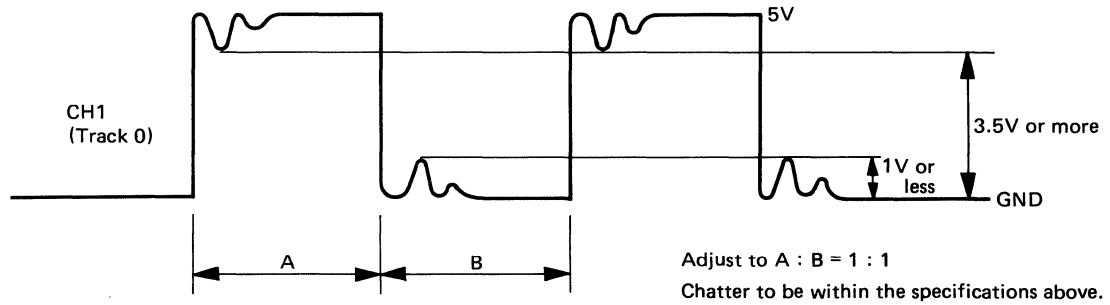

Fig. 4.5 Track 0 Waveforms
7. Loosen the track 0 sensor screw, and adjust until the waveform shown on the oscilloscope is as shown in Fig. 4.5.